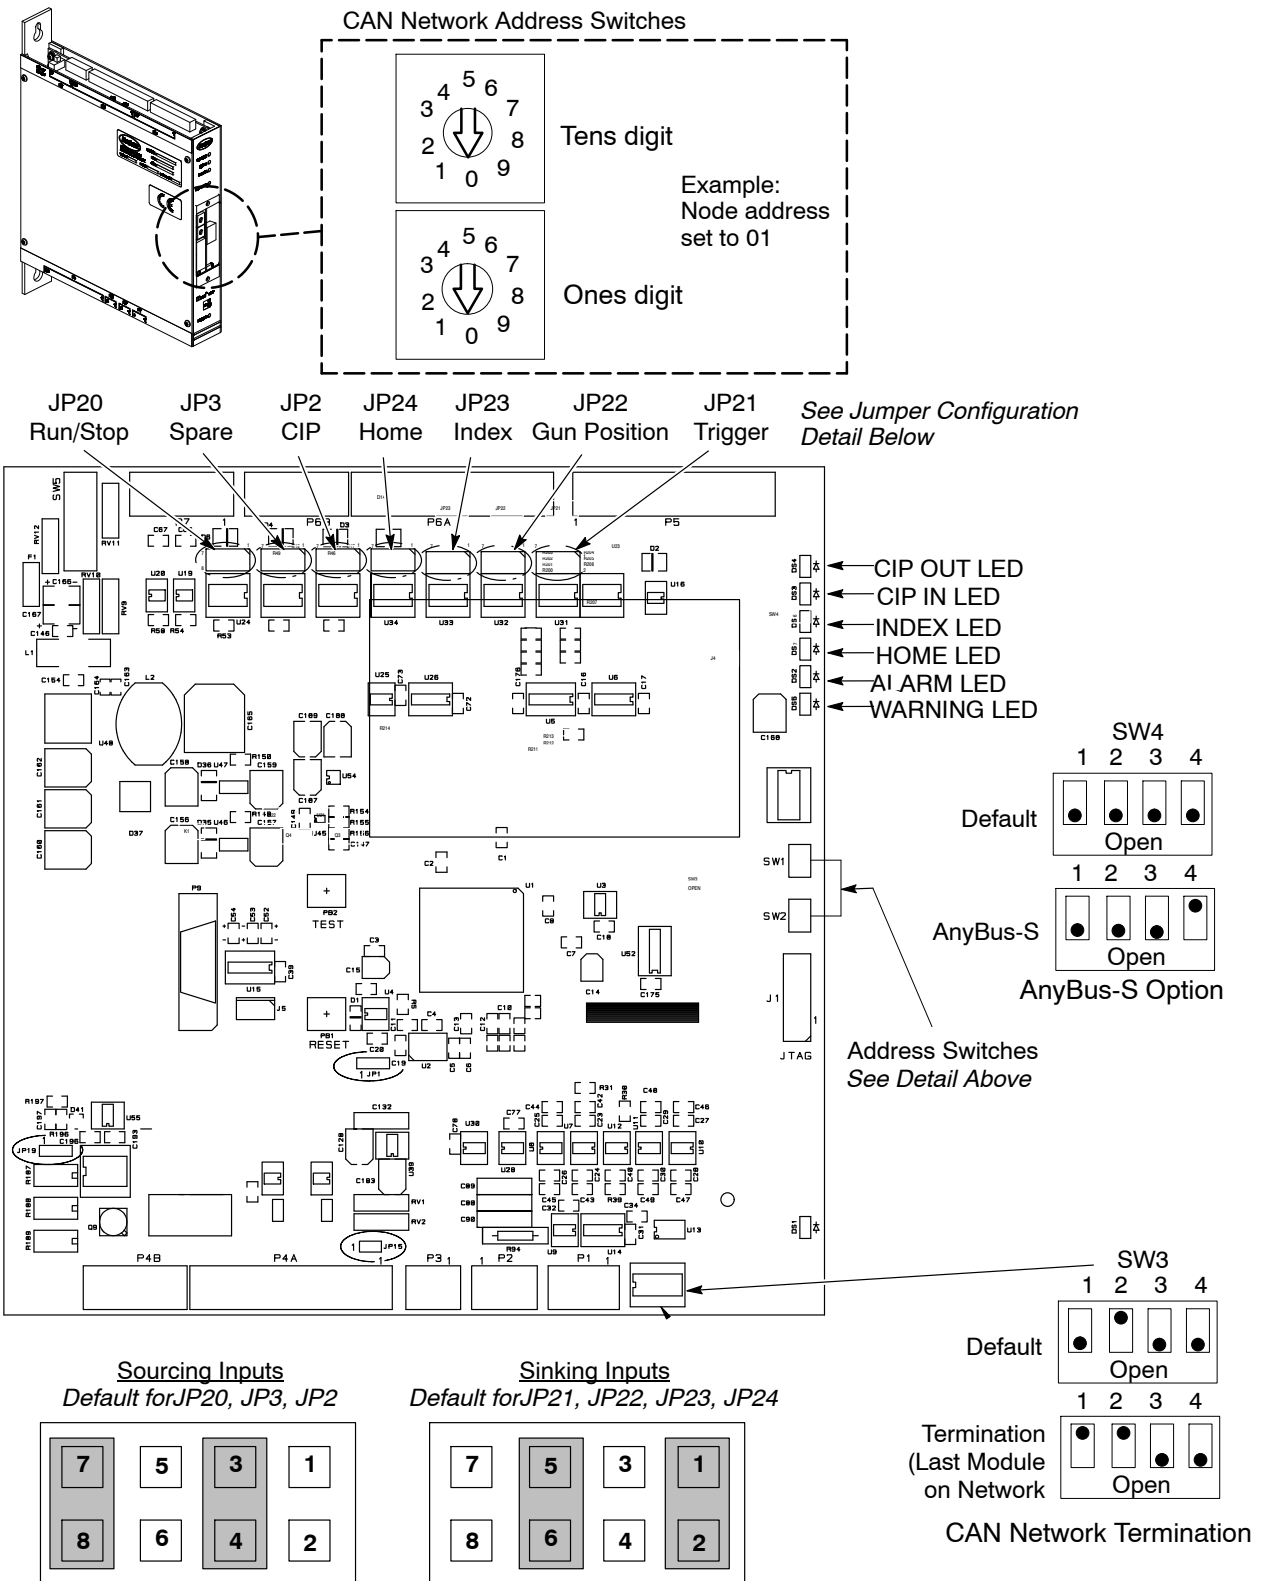

Figure 4 PRx II Circuit Board Switches and Jumper Settings
1. See Figure 4. Using a screwdriver, remove the access plate on the front of the PRx II module.
3. **Last Module in the iTRAX CAN Network Only:** The last module on the CAN network must be terminated. If the module is a PRx II module close switch SW3 position 1 to terminate the network (see Figure 4). This switch is accessible from the bottom of the PRx II module.